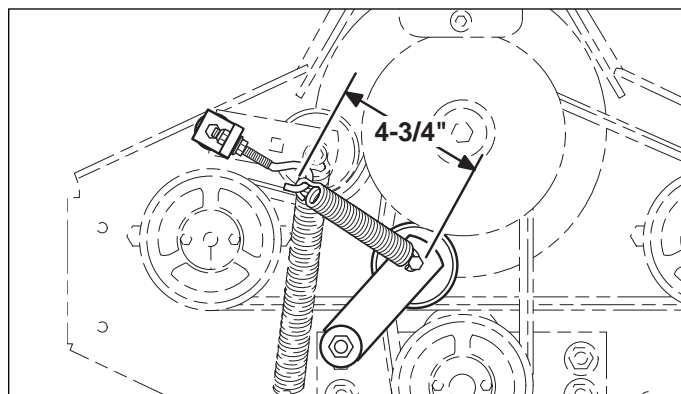

Figure 52. Idler Spring Measurement
3. Hook the clutch belt idler spring on the screw hook and reinstall the screw hook into the anchor. Adjust the screw hook until the spring measures 4-3/4" (12,1cm) to the outside of the loops on the spring (see Figure 52).
4. Reinstall the clutch anchor pad to the clutch with the hardware (D) previously removed. Make sure the hardware is in the same order as is was before being removed.